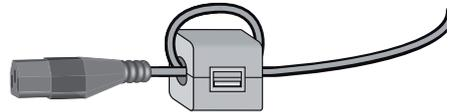

Fig. 21
- Close the ferrite sleeve (fig. 21).